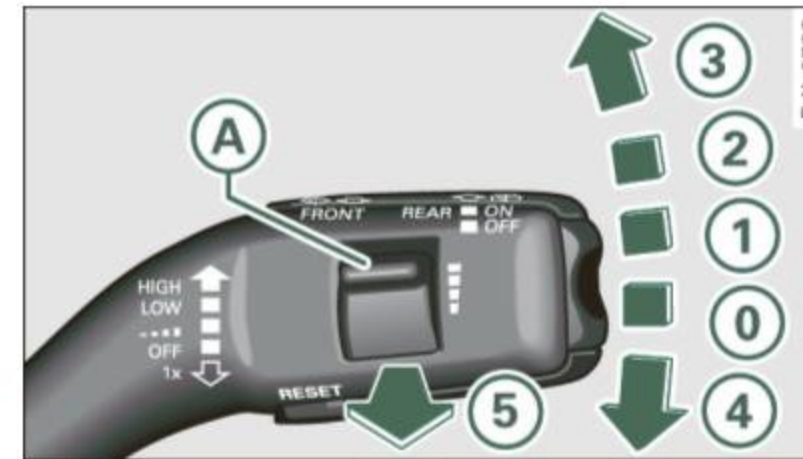

Fig. 62 Wiper lever: windshield wiper lever positions
The windshield wiper lever ⇒ fig. 62 has the following positions:
- Switch the ignition off again and move the wiper lever ⇒ *page 65, fig. 62* from position **0** to **1** within 10 seconds. The wiper arms now move into the field of view in the windshield.